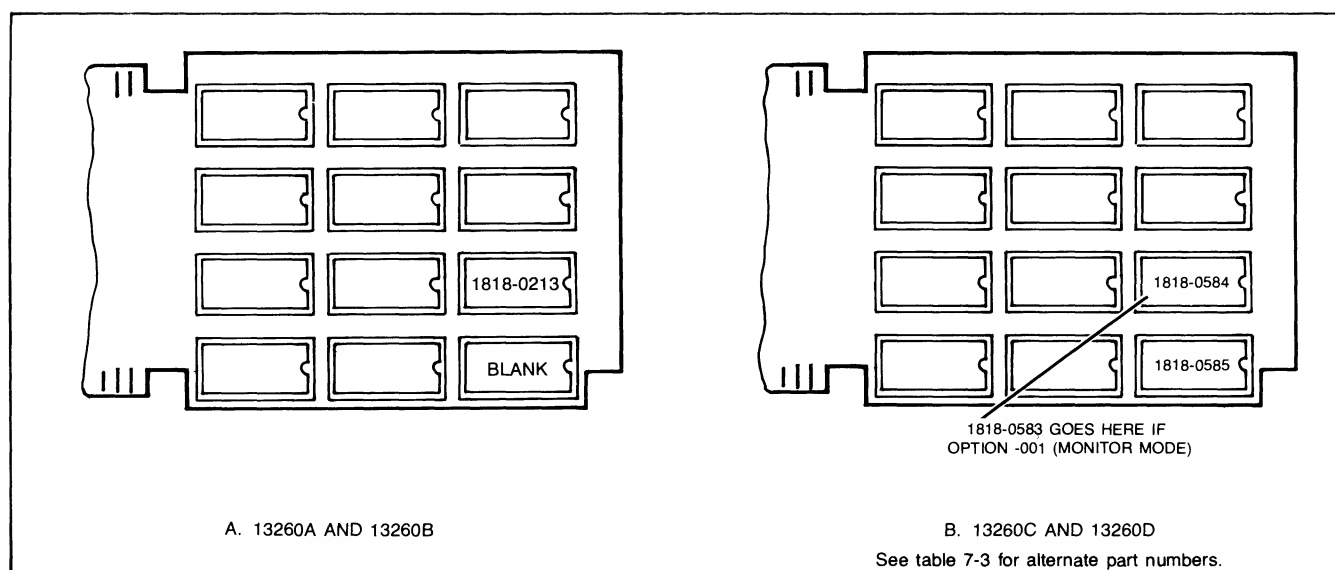

Figure 7-13. Control Memory PCA Data Comm Firmware IC Locations
7. ( ) Remove IC's, if present, from DATA COMM sockets 20 and 22 of Control Memory PCA (see figure 7-13).
9. ( ) Carefully insert ROM(s) contained in accessory package into DATA COMM socket(s) so that ROM pin 1 is at upper right corner of socket (see figure 7-13).